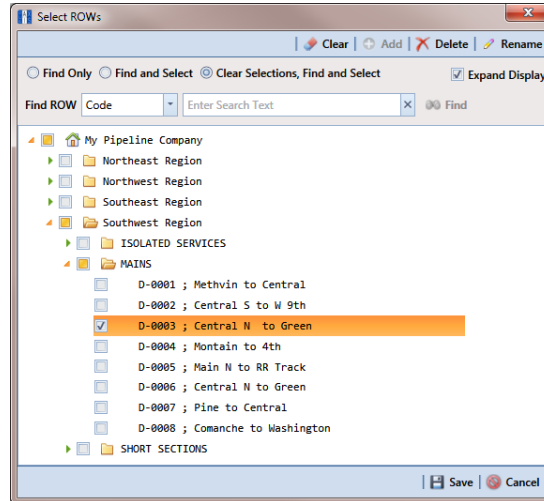

Figure 4-8. Select ROWs
- 1** Click **File > Select ROWs** to open the *Select ROWs* window. Select a pipeline in the hierarchy you want to delete (Figure 4-8).